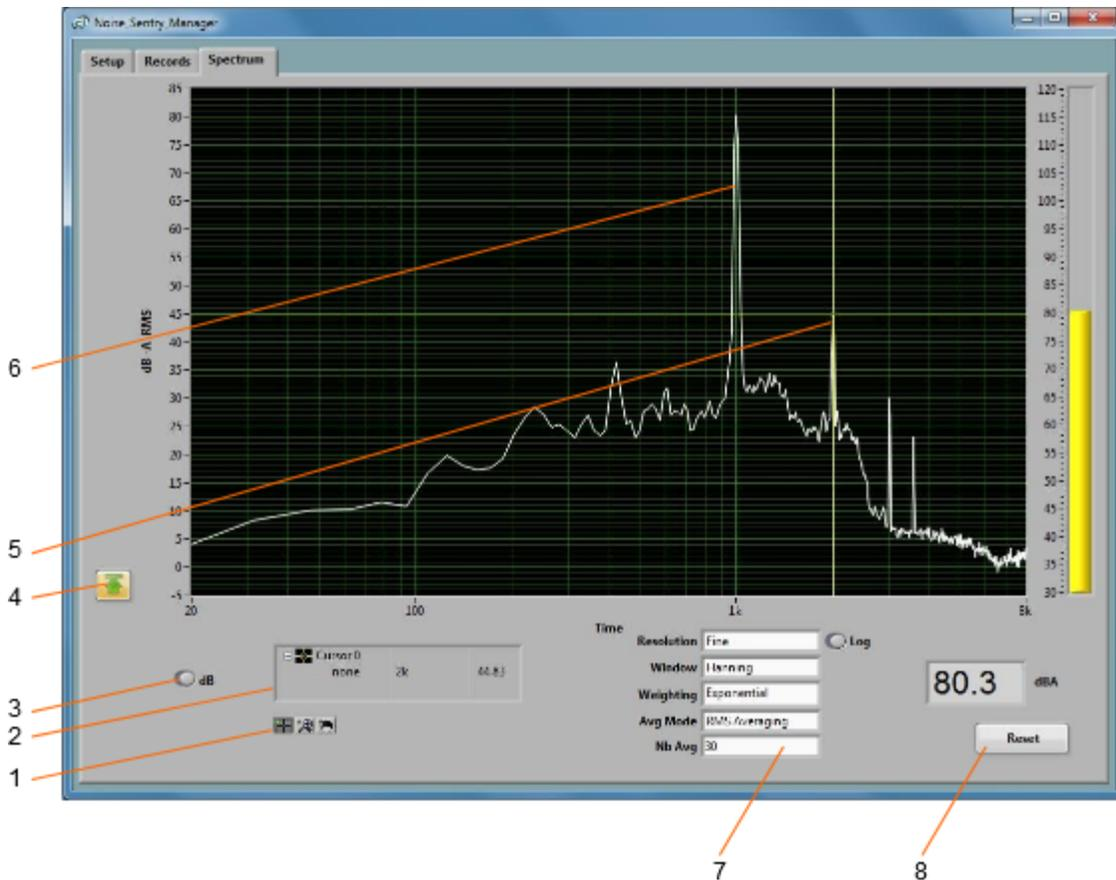

Figure 4 **Spectrum Tab**
- **The Spectrum Tab:** Is used to display a real-time power spectrum or 3rd octave display from the Noise-Sentry-RT-P (see Figure 4).